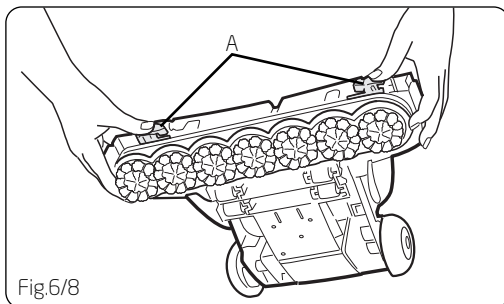

Fig.6/8
Push two brush release buttons (A) and remove the brush assembly (Fig.6/8).